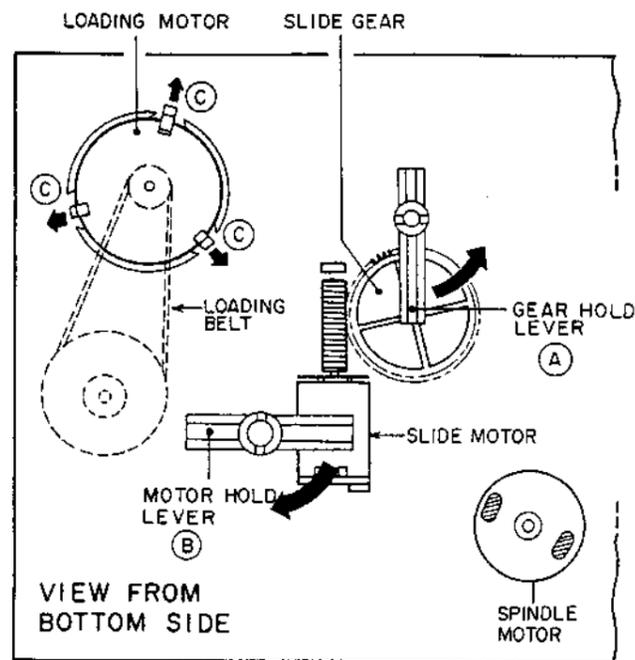

Fig. 4-4
- 2) Extend motor holders ©, at the same time, push the LOADING MOTOR from pulley side, then remove the LOADING MOTOR. (Fig. 4-4)
- 2) Pull out the SLIDE MOTOR. (Fig. 4-4)
- 1) Turn the GEAR HOLD LEVER ⓐ counterclockwise, then Pull out the SLIDE GEAR. (Fig.4-4)